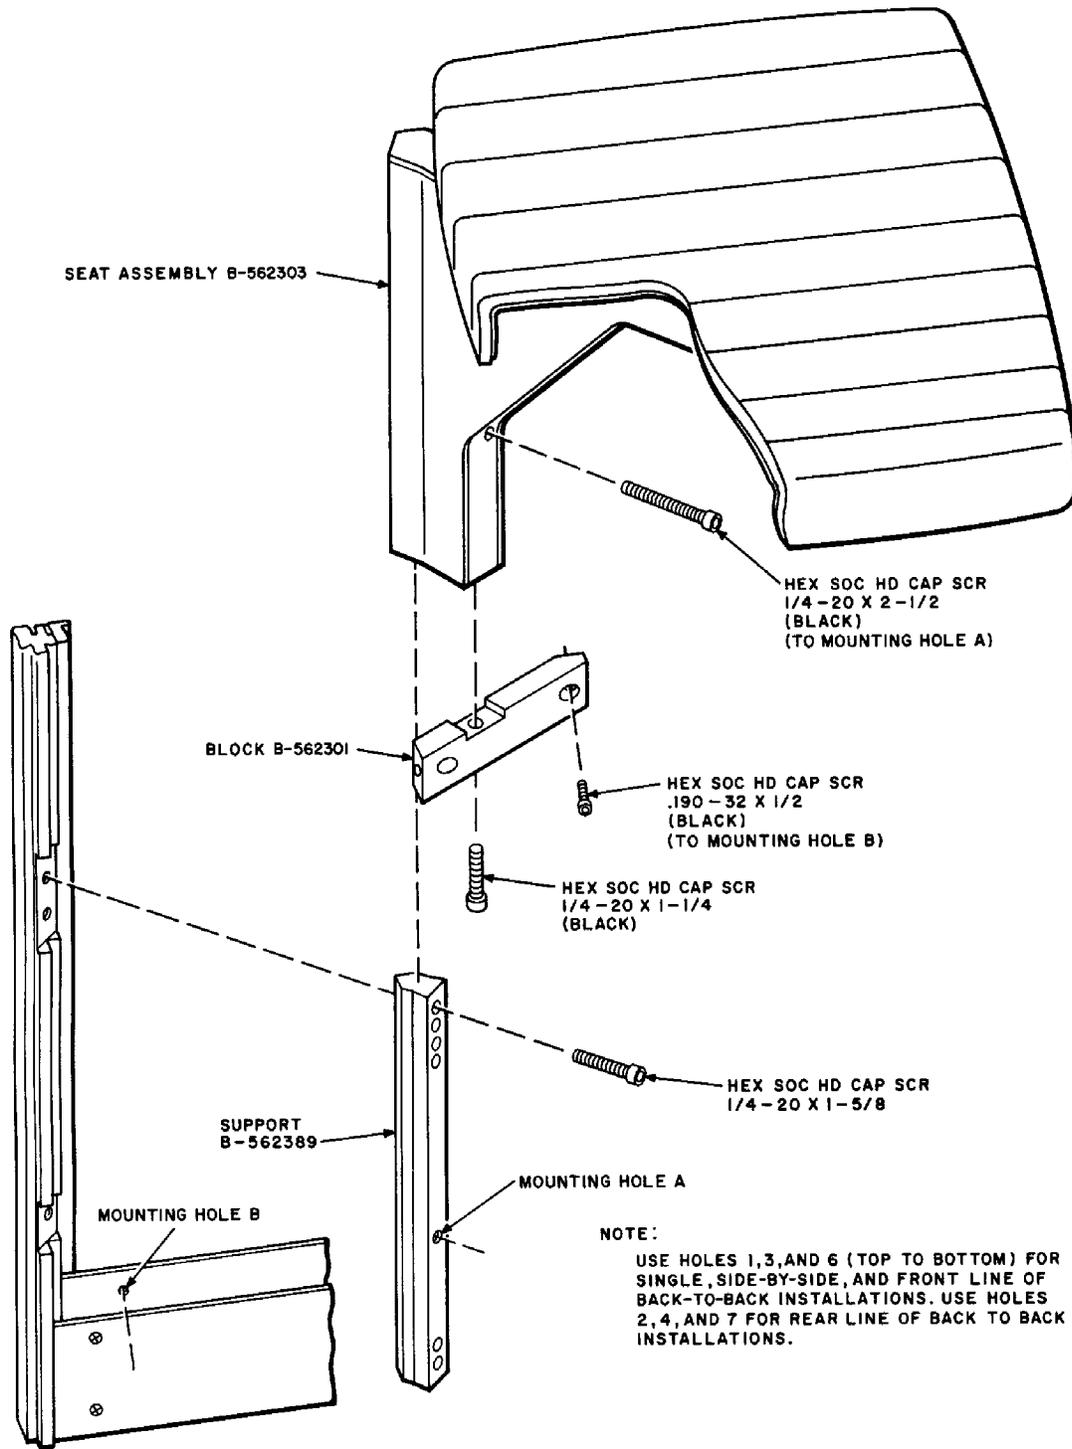

Fig. 18 — Installation of Seat Assembly
(ar) Install seat assembly as follows (Fig. 18):
1. Install B-562389 support to wall using three 1/4-20 by 1-5/8 unpainted hex socket head cap screws. See note on Fig. 18.